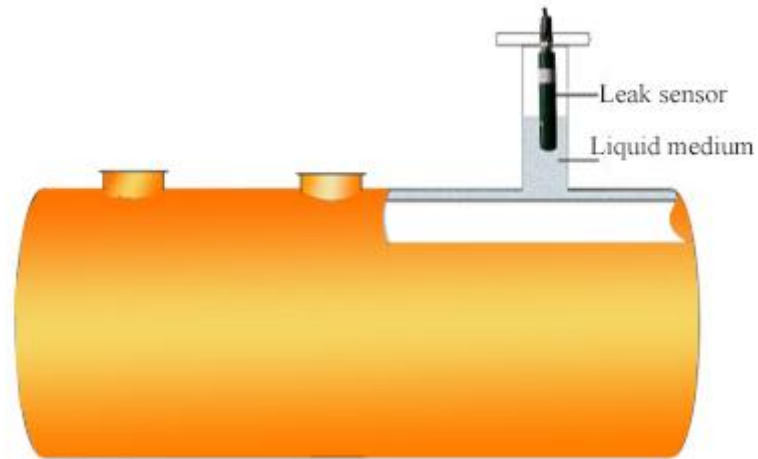

Figure 2: installation diagram of wet type tank
B. The wet type tank adopt normally closed liquid medium switch, installed at the top of tank(figure 2), on-site installation step is as follows: